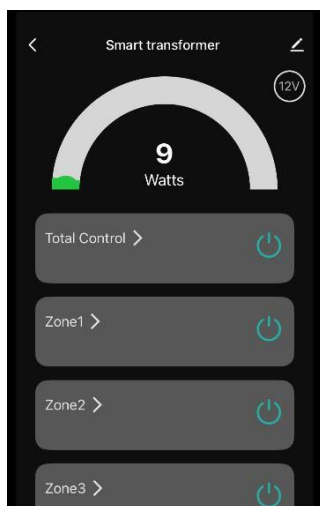

Figure 2 : Smart power station interface
3. Whenever the device is selected, the power readout, total control, and three zones will be displayed. (See Fig. 2) By selecting the icon to the right of the power readout, transformer can be toggled between 12V and 15V.